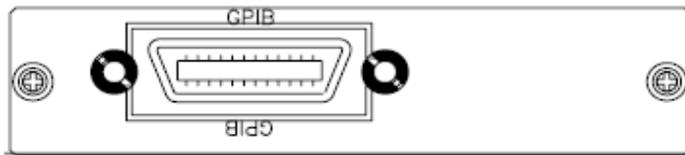

Fig 2-5 3305G REAR PANEL
- Please make sure the lock screws are firmly hand-tightened, use a Screwdriver only for the removal of screws. Fig 2-5 shows the rear Panel of 3305G mainframe, The GPIB address of the 3305G mainframe is set on Front panel.